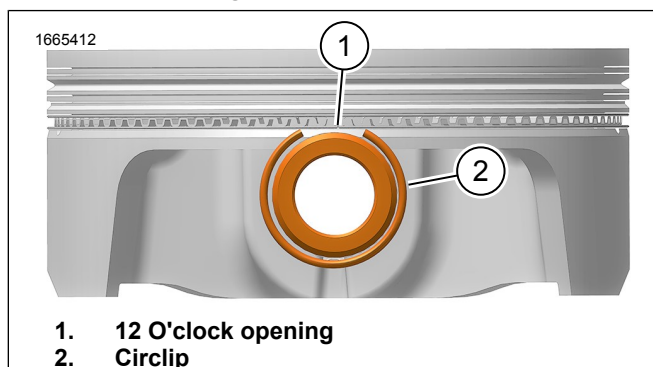

Figure 5. Circlip Position on Piston
3. Figure 5 Make sure that circlip (2) is fully seated in groove.
- a. Circlip opening (1) must be at 12 o'clock position.